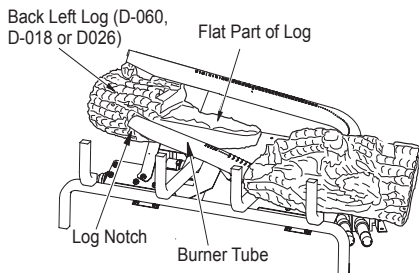

Figure 25 - Installing Back Left Log
- Find the back left log (LMF36-SC and VFGT24 inch models: D-060 or LMF42-SC and VFGT30 inch models: D-018 or LMF48-SC and VFGT36 inch models: D-026). See Figures 25, 25A, and 25B. Figure 25A shows how the log must fit against the end of the burner. Figure 25B shows how the notch in log fits against the vertical portion of the burner tube. Place this log on the base assembly by inserting it from the left side as shown in Figure 25. You will need to twist the log slightly to get it to fit against the burners properly. It will rest even with the back edge of the pan.